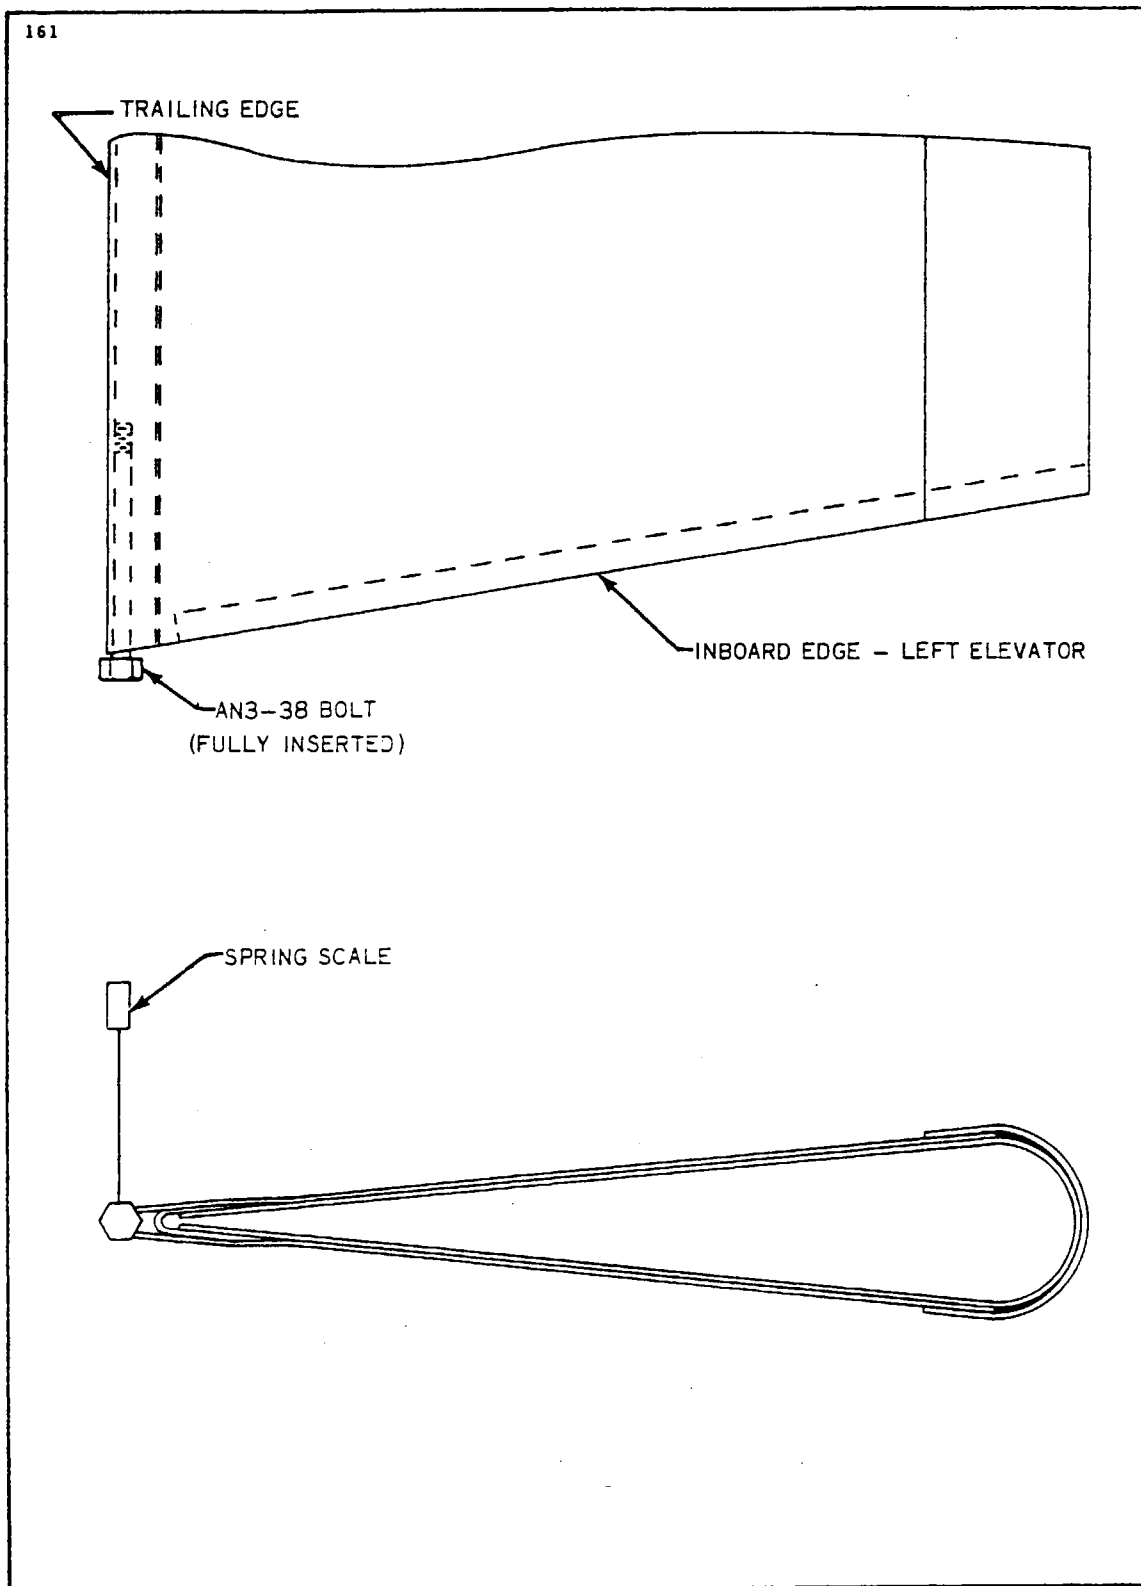

Figure 4-20. Elevator Friction Measurement
- a. Attach a spring scale to the inboard trailing edge of the elevator as shown in Figure 4-20.